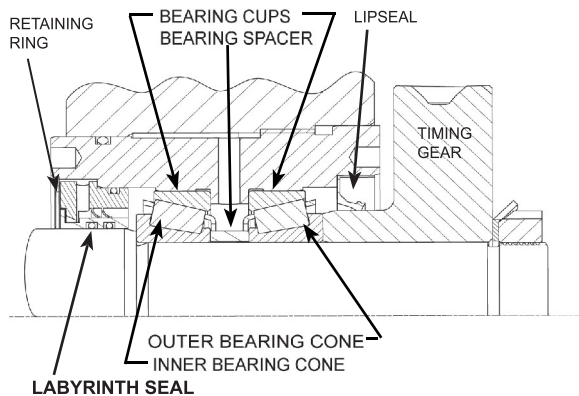

FIGURE 8
1. Remove the retaining ring. See Figure 8.
9. Refer now to Figure 8 on page 8. The bearing housing should already be assembled; if not see BEARING HOUSING ASSEMBLY. Install the O-rings onto the bearing housings; apply a lubricant to the O-ring to ease installation. Pack the bearings with a heavy-duty multi-purpose grease. Thread the bearing housing into the bracket on the lower shaft. Repeat for the upper bearing housing. Rotate each bearing housing assembly clockwise until the lobes hit the pump head, then back them off ¼ turn.